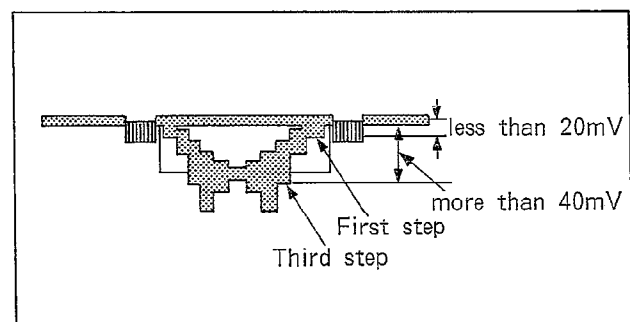

Fig. C36-1
1. Readjust the ALC to 800mV. But do not write the data into EEPROM (Do not perform item 6 of ALC Adjustment) (Refer to ALC ADJUSTMENT)
7. Push the "INC" key or "DEC" key so that first step of gray scale chart becomes less than 20mV and 3rd step of gray scale chart becomes more than 40mV as shown in Fig. C36-1.